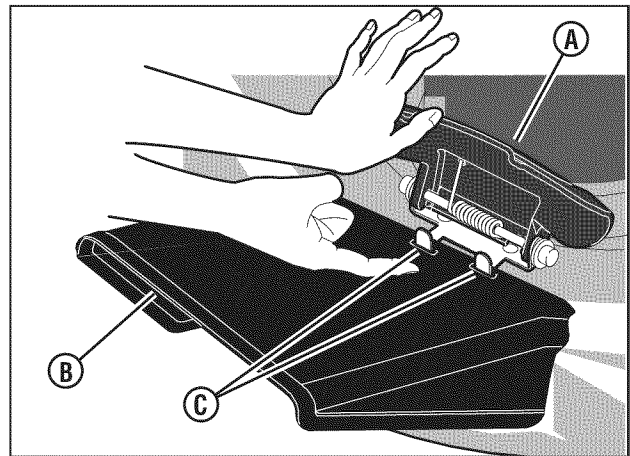

Figure 11: Installing the discharge deflector
1. Raise the mulching cover (**A, Figure 11**).